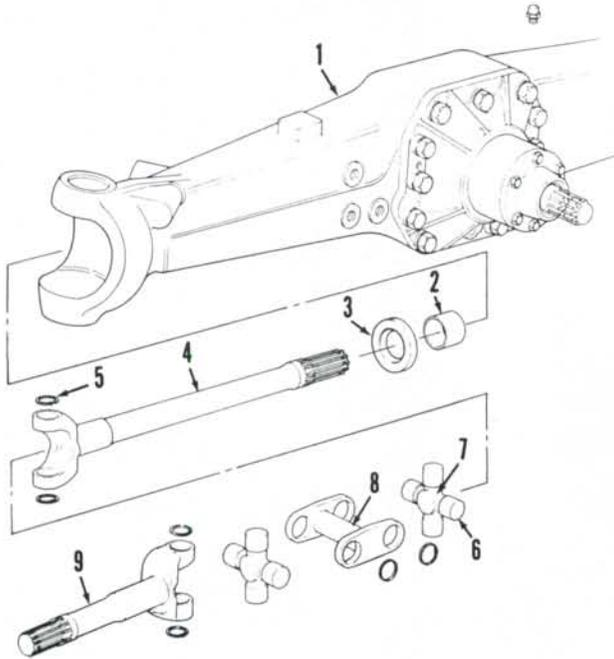

Fig. 34—Exploded view of typical axle shafts used on Carraro 709/19 axle.
**40. AXLE SHAFTS.** Axle half-shafts (4 and 9—Fig. 34), oil seal (3) and bushing (2) can be renewed with axle housing in place. Refer to paragraph 37 for removal of final drive and swivel housing. Pull axle shaft from housing. Remove oil seal and bushing using suitable slide hammer puller.